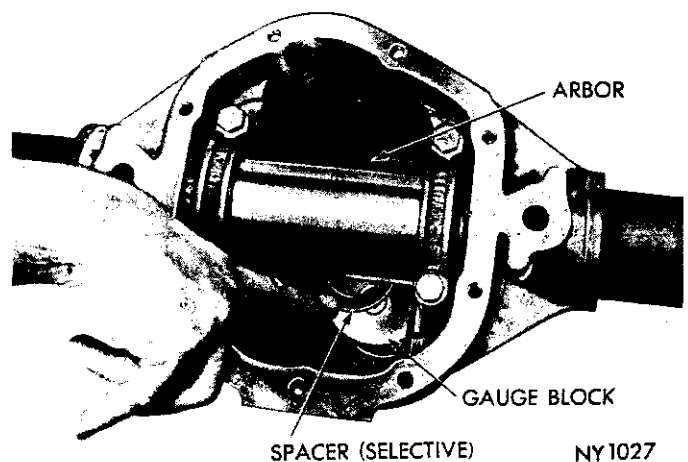

Fig. 18—Measuring Housing For Pinion Shim Thickness
(3) Select rear pinion bearing mounting shim which will fit between cross bore arbor and gauge block. This fit must be snug but not too tight (similar to the pull of a feeler gauge) (Fig. 18).